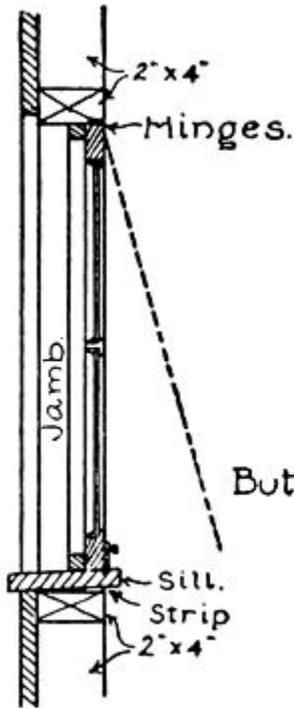

FIG. 188. — Section through Window.
**A Window-sash.**—They very often have a number taken from old buildings, which they will gladly sell for a small sum. There are two ways in which you can easily fasten the sash in place, either with hinges so it will swing in, as shown in Figs. 187 and 188, or in tracks, to slide as described for the dark-room window in Chapter XI and illustrated in Fig. 169. If the window is made in the front of the building, as shown in the sketch of the finished club-house, the sash will necessarily have to be hinged, as there would not be room for it to slide sideways. We will therefore hinge it to swing in as shown in Figs. 187 and 188. The studding which was placed around the window opening when you erected the framework of the house forms a frame for the sash to set in. The window-sill is made out of a seven-eighths-inch board cut the width of the opening, and should be nailed to the bottom piece of the frame so it pitches slightly outwards and its edges project a little beyond the wall inside and out (see Fig. 188). The pitch of the sill can be obtained by blocking the inner edge with a very thin strip of wood, as shown in the section drawing. The sash should fit the frame with but enough space around it to allow it to open freely. Place the sash in the opening with its inside surface on a line with the inside face of the two-by-four frame, as shown in Fig.